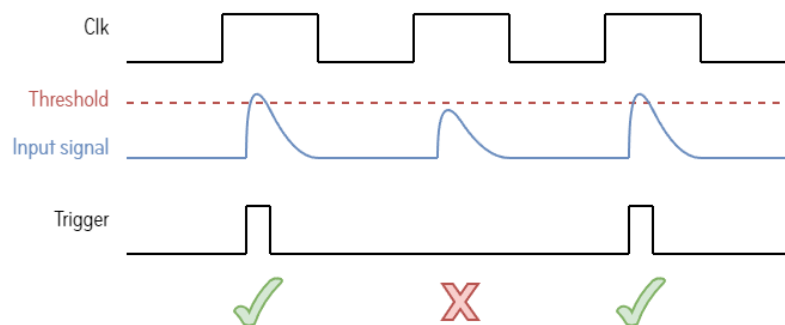

Figure 16 - S-curves acquisition chronogram
When the threshold is way below the signal amplitude, the trigger efficiency will be 100%. With a threshold way over the signal, trigger efficiency drops to 0%. On Figure 16, the threshold is set near the tip of the signal so the ASIC will have a ~50% chance of triggering depending on the noise. Following the Figure 16, the ASIC would trigger 2 times in 3 acquisition windows, resulting with a 67 % trigger efficiency.
To plot the S-curves using an input signal by checking the “use ctest” checkbox ② the user will need to inject signal through the “in_Ctest” connector. The injected signal must be synchronized with the clock signal available on the FPGA I/Os (default 100, see FPGA config. tab) to send the signal in each acquisition window as shown on Figure 16. Note that to inject signal in a single channel there is no need to check this box. Checking the box will inject signal in ALL channels by enabling their respective Ctest one by one as measurement goes on. To inject in a single channel with Ctest, enabling it from the ASIC config. main page is enough (or inject in the channel input directly).